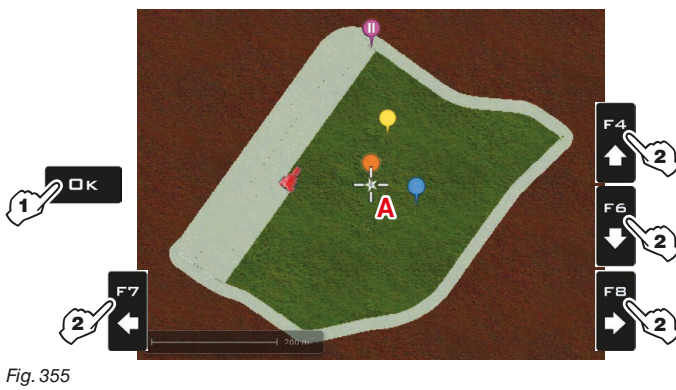

Fig. 355
- 1 In the field overview screen (Fig. 355) press **OK**. Cursor **A** will appear.